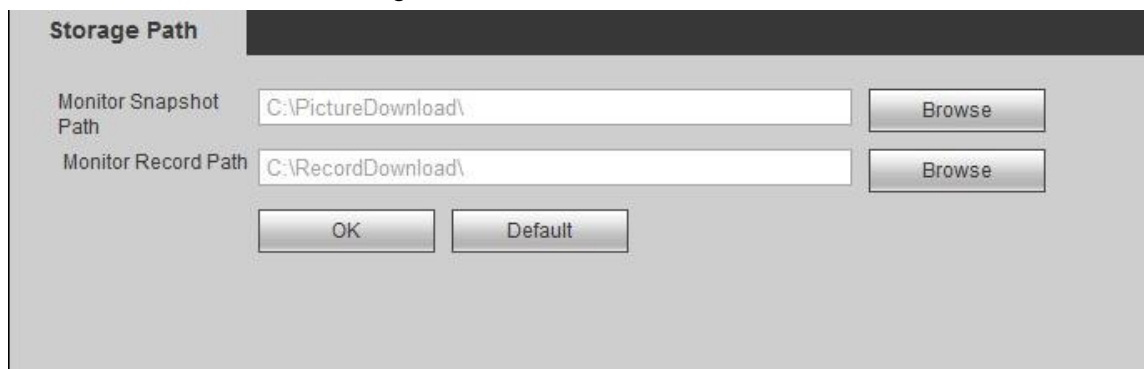

Figure 4-45
Step 1 Select "Setup> System Config> Storage Path". The system displays "Storage Path" interface, as shown in Figure 4-45.